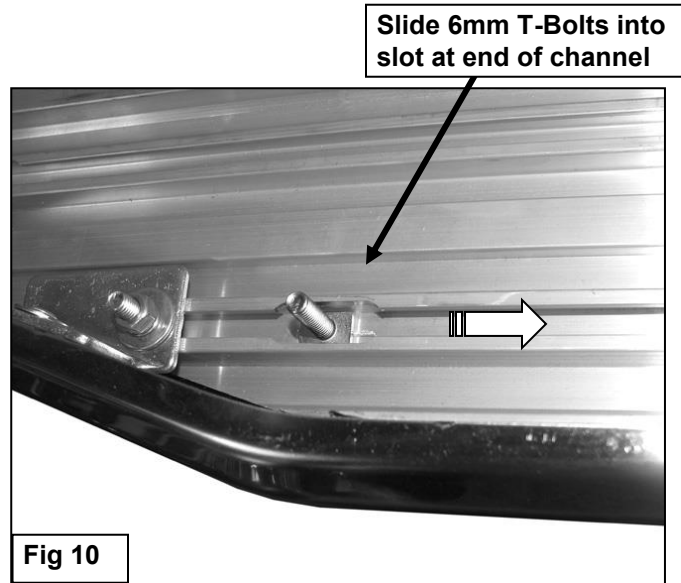

Fig 10
6. Select the driver/left side Running Board. Locate the openings cut at the end of the slots on the bottom of the Running Board, (**Figure 10**). Insert (3) 6mm T-Bolts into each channel through the openings. Slide the T-Bolts into the approximate position in line with the (3) Brackets on the vehicle.